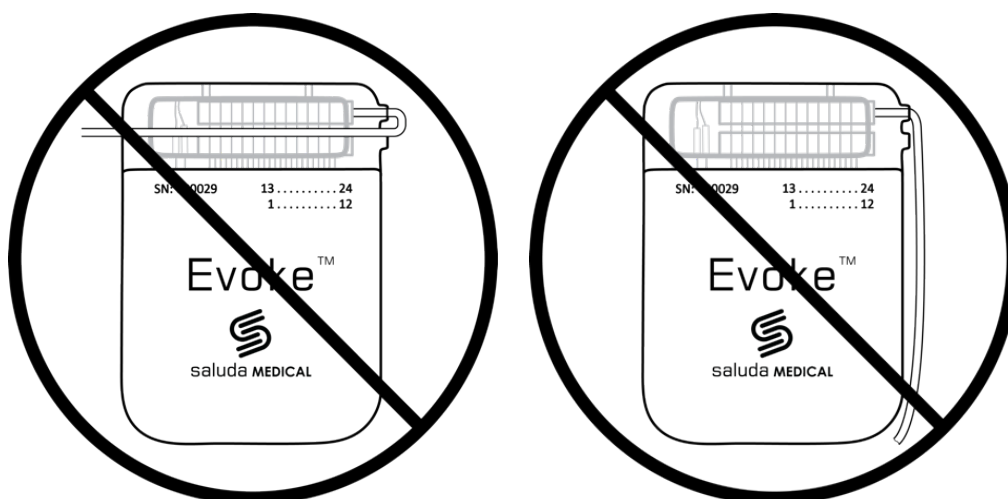

Figure 6.5: Examples where the lead has been bent at the port of entry of the CLS header. Take care to avoid this when creating the strain relief loop.
**Caution:** Ensure that the lead is not bent at the port entry of the CLS header (refer to Figure 6.5).